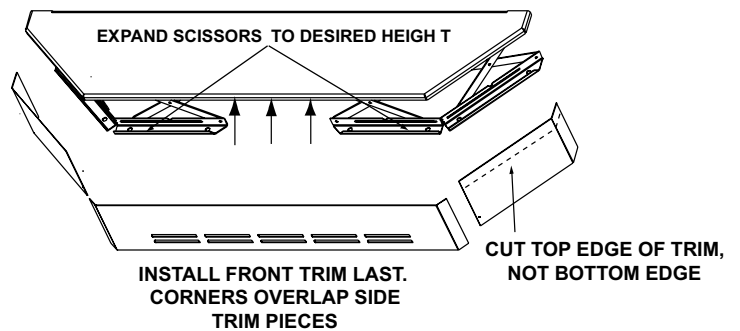

Figure 14B
2. Expand scissors to desired height. Tighten screws to hold in place using Phillips Head screwdriver. **See Figure 14B.**
3. Measure front and side trims to required height to cover scissors and mark pieces for cutting. Cut excess material from **top** of trim's edge, not bottom. This edge will be sharp; wear gloves to prevent injury to your hands. **See Figure 14B.**